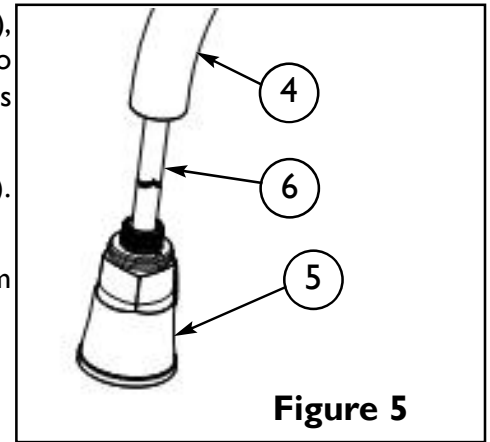

Figure 5
8. Pull SPRAYHEAD (5) out from SPOUT (4). While holding HOSE (6), detach SPRAYHEAD (5). Aiming HOSE (6) into sink, turn on faucet to center position (mixed) and flush for one minute to remove debris from lines.
9. Turn OFF faucet and reattach SPRAYHEAD(5) to HOSE(6). **See Figure 5.**
10. Check the SPRAYHEAD(5) by operating the trigger from aerator to spray.